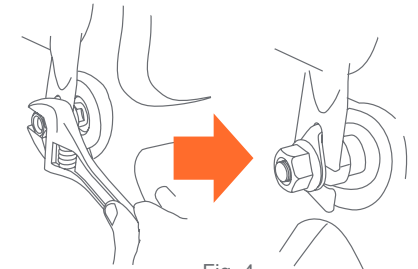

Fig. 4
- 4) • With the wheel in position, install the axel nuts and tighten with standard crescent, box, or open end wrench. You should feel significant resistance and the wheel should be held tightly in place (Fig. 4).